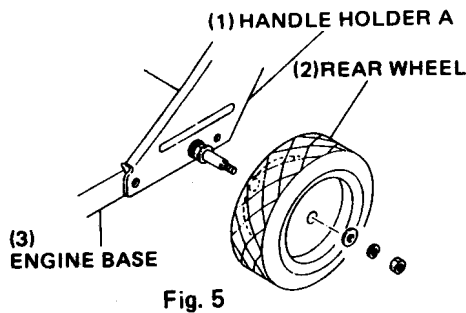

Fig. 5
b. To install rear wheels, temporarily remove the nuts, spring washers and washers from the rear axle. Install the rear wheels and secure them with the washers and nuts in the same order. (Fig. 5)